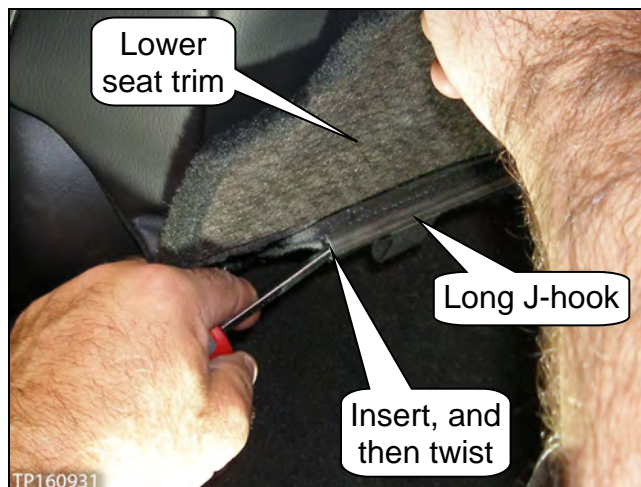

Figure 8
- Lift the lower seat trim to access the long J-hook (see Figure 8).
- a. To start separating, insert a screwdriver or other suitable tool, and then twist (see Figure 8).